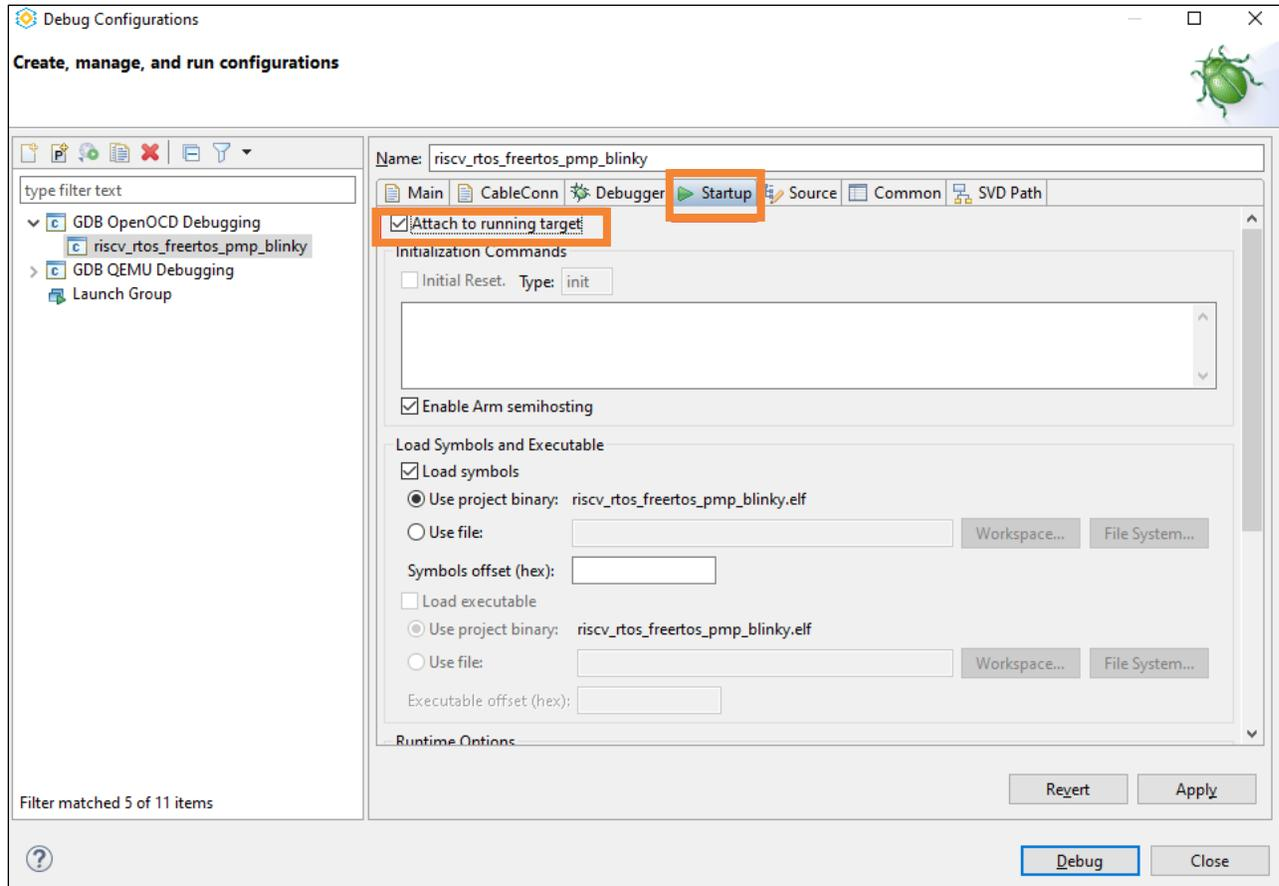

Figure E.2. Debug Configurations Page
2. Select **Startup** tab. Check **Attach to running target** checkbox (Figure E.2), Click **Apply**. Click **Debug**.